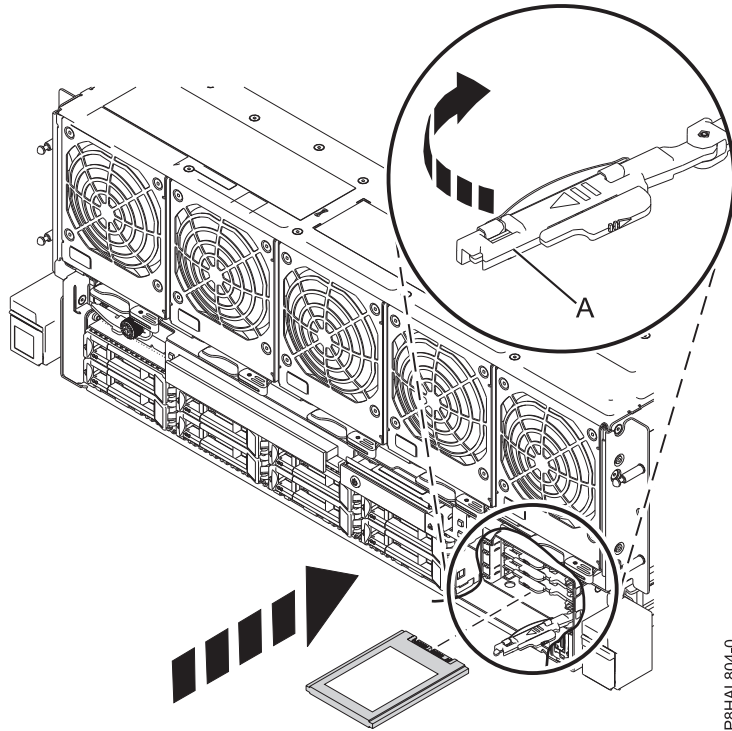

Figure 5. Installing an SSD in an 8408-44E or 8408-E8E system
3. With the SSD drive bay handle (A) in the unlocked position, pull the lever outward to gain access to the guide rails in the SSD slot. Support the bottom of the SSD as you align it with the guide rails in the SSD slot. See Figure 5 on page 11.
4. Slide the SSD into the system until the drive stops, and then lock the SSD by rotating the bay handle (A) in the direction shown. See Figure 5 on page 11.